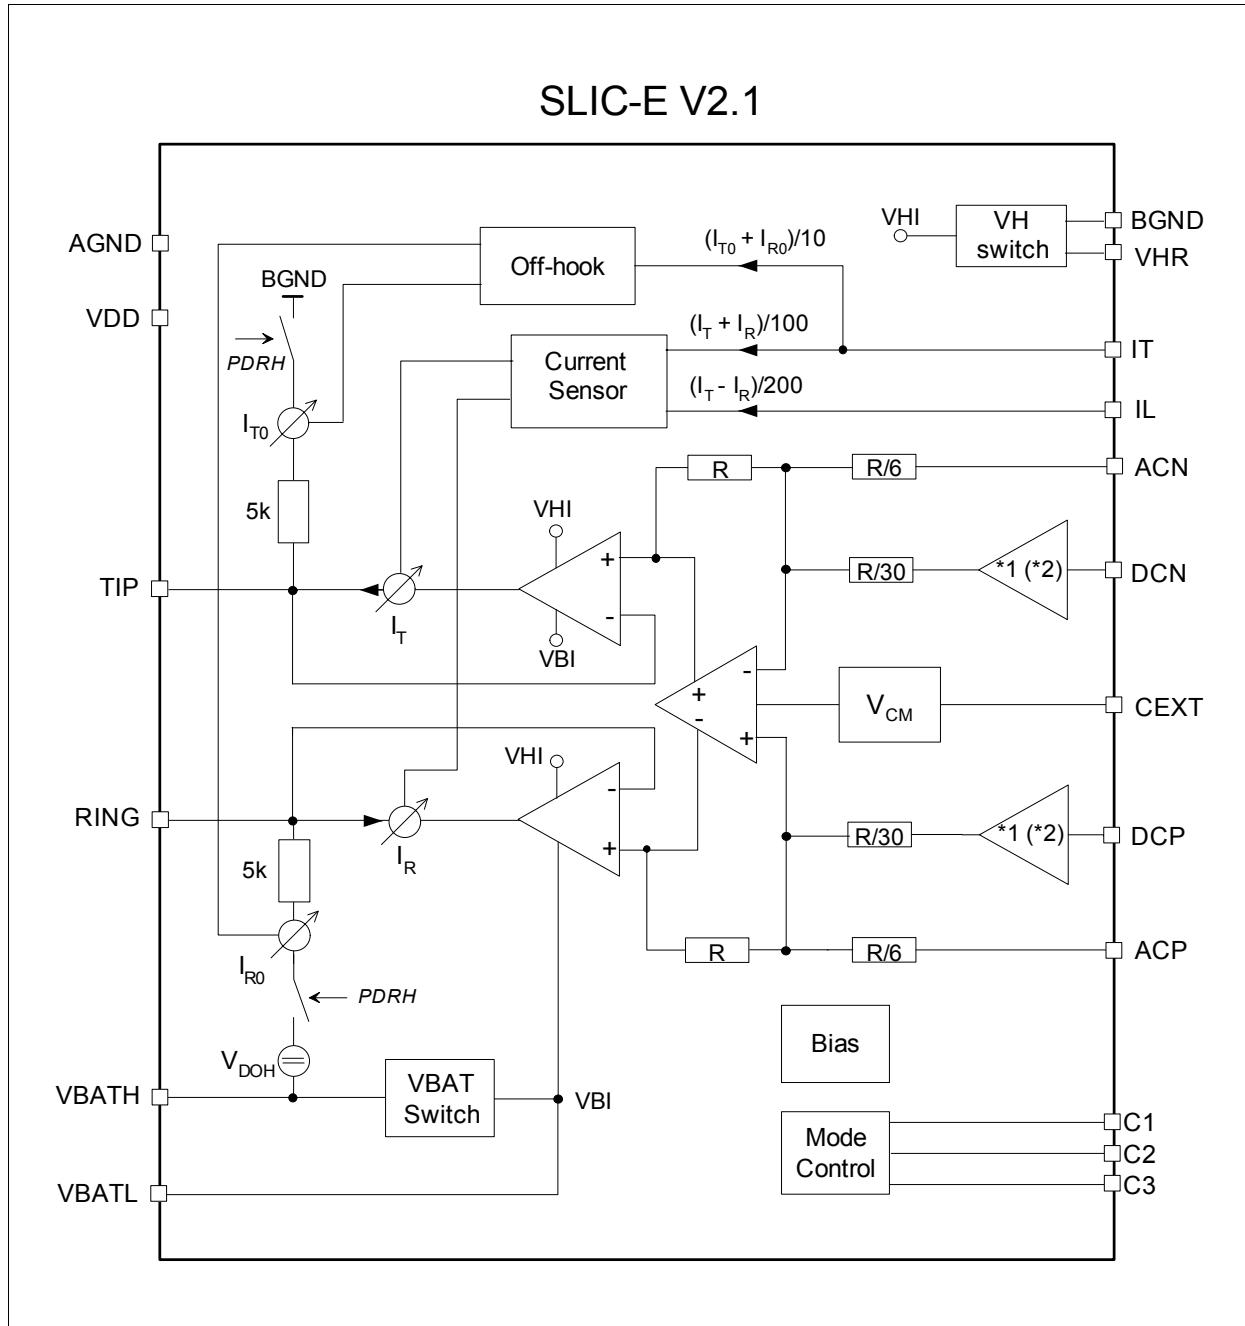

Figure 6 Block Diagram
A functional block diagram is shown in Figure 6.
Power consumption is reduced to a minimum by switching completely off all voice transmission functions. To allow off-hook detection, PDRH provides a connection of 5 kΩ each from TIP to BGND and RING to VBATH, respectively, while the output buffers show high impedance (see **Figure 6**). The current through these resistors is sensed, scaled by 1/5 and transferred to the IT pin for off-hook supervision.
3) Due to the changed battery switch concept (see **Figure 6**), the VBATL series diode must not be shared between different channels; one diode per channel is mandatory (also for applications with TSLIC).